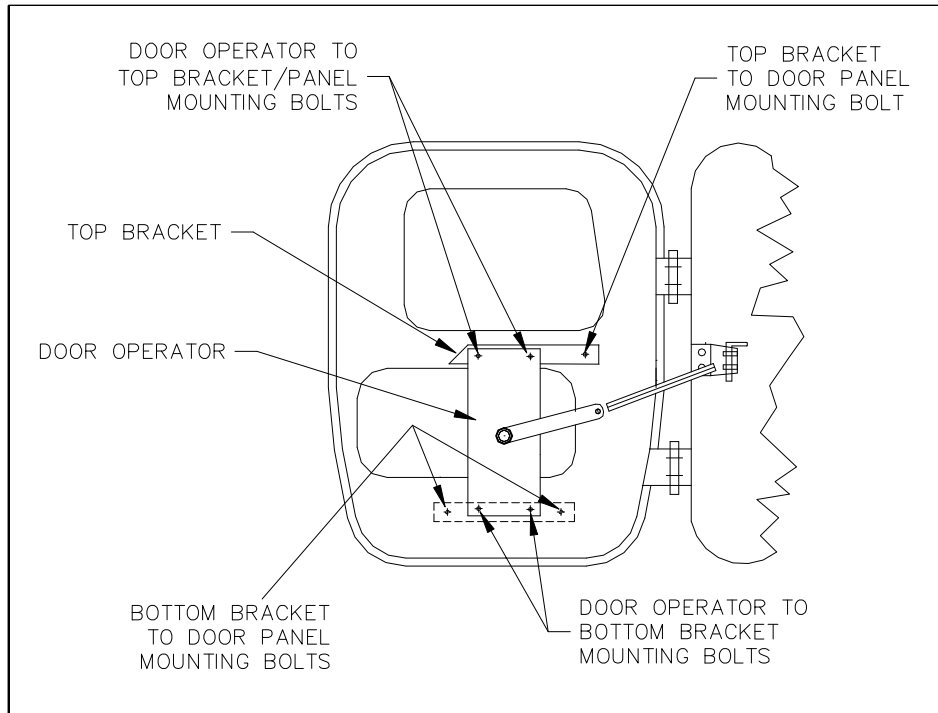
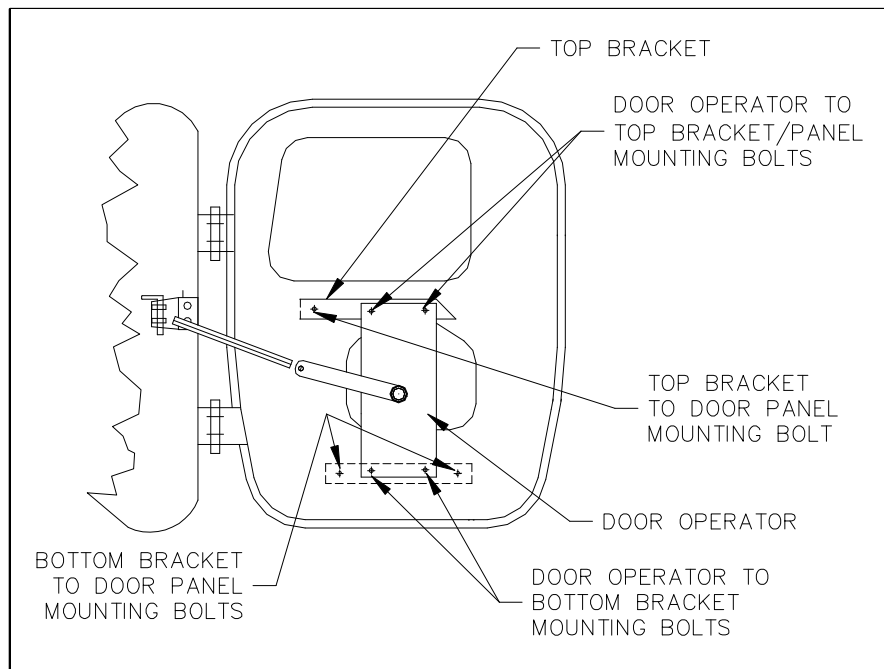

FIGURE 2-3: LEFT-REAR DOOR OPERATOR MOUNTING LOCATIONS
FIGURE 2-4: RIGHT-REAR DOOR OPERATOR MOUNTING LOCATIONS
- j. Refer to the kit installation instructions and **Figure 2-3** or **Figure 2-4**, as applicable. Position and fasten the top bracket to the door. Be sure to insert bolt so that the hex-nut is installed behind the door panel.